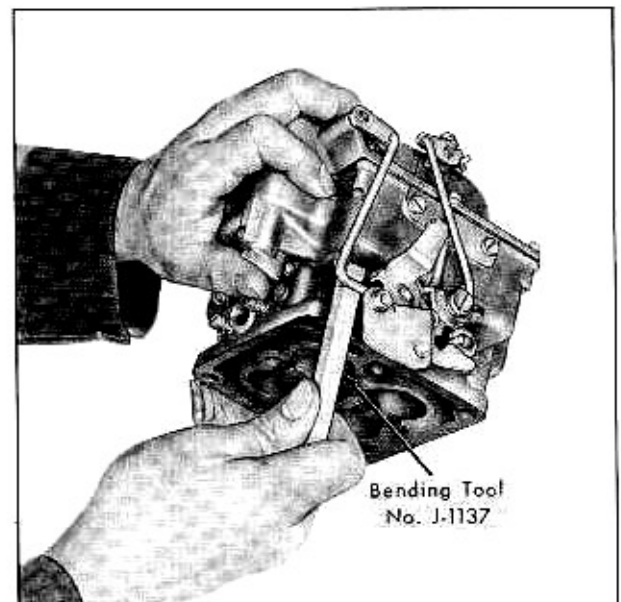
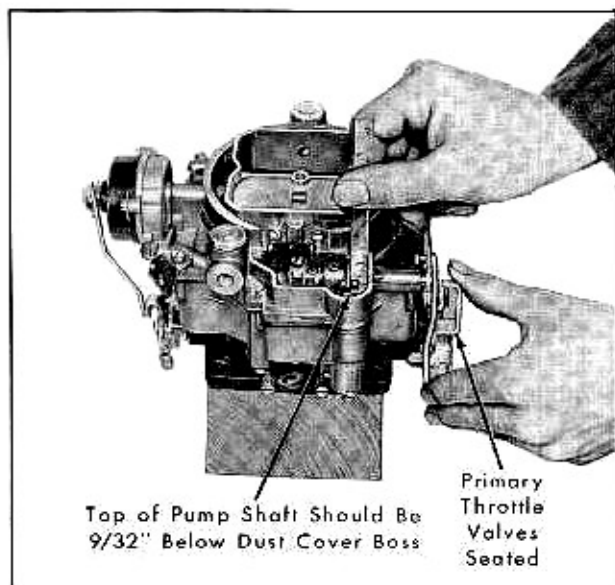
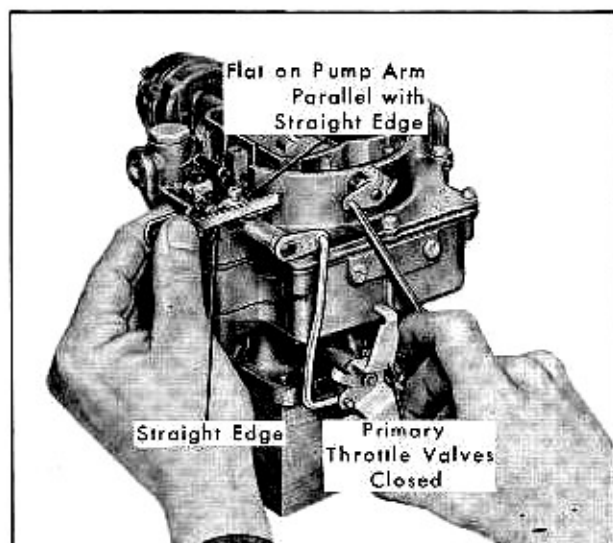

Fig. 12-29 Bending Pump Rod
Fig. 12-30 Accelerator Pump Adjustment
Fig. 12-31 Optional Pump Adjustment
4. Use Bending Tool No. J-1137 as shown in Fig. 12-29 to lengthen or shorten pump rod as required until the top of the pump plunger shaft is $9/32''$ below the top of the dust cover boss, Fig. 12-30. Optional Adjustment: Hold a straightedge across top of dust cover boss as shown in Fig. 12-31. Adjust length of pump rod as in step 4 above, until the flat on top of the pump arm (under set screw) is